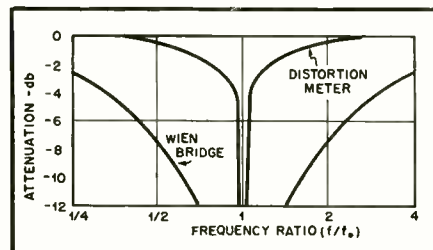

Fig. 4. Curves showing selectivity of Wien bridge and of the distortion meter using feedback around the bridge.
Figure 4 is a plot of the transmission characteristics for the entire unit, null connected, as compared to that of a Wien bridge alone. The increase in selectivity is obvious.
A highly successful method of making the measurements uses the bridge circuit of (A) in Fig. 4. Arms ab and bc are essentially the same as shown at (A) in Fig. 2, the low value standard resistance being used to obtain current waveform. The other arms are used to separate the fundamental component of magnetizing current from its harmonics, so that its phase can easily be read off from ellipse dimensions. To take the reading, the bridge is balanced for fundamental, so across the null points, bd , only harmonic appears. The potential drop across the combination arm ad is the same as the fundamental component of that across ab , in both magnitude and phase. The complete method is facilitated by the use of a Cossor double-beam oscilloscope, so the two Y quantities can be displayed simultaneously. Alternatively an electronic switching unit could be used.
The complete measuring circuit, including calibrating potentiometers, is shown at (B) in Fig. 4. The procedure for taking a reading at a given frequency and amplitude is as follows: